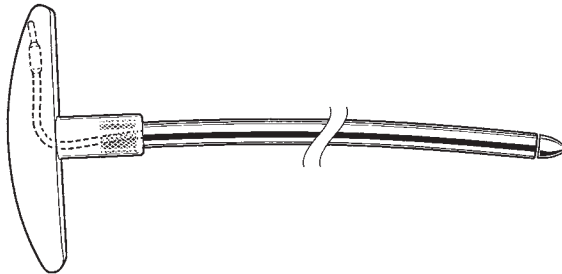

FIGURE 50
- Using the tunneling tool from the surgical lead package, the Model 3550 accessory kit (SHOWN IN FIGURE 50 AND IN REST OF PROCEDURE), or other appropriate accessory kit, bend the tunneling tool as necessary to conform to the patient's contour along the tunneling route.